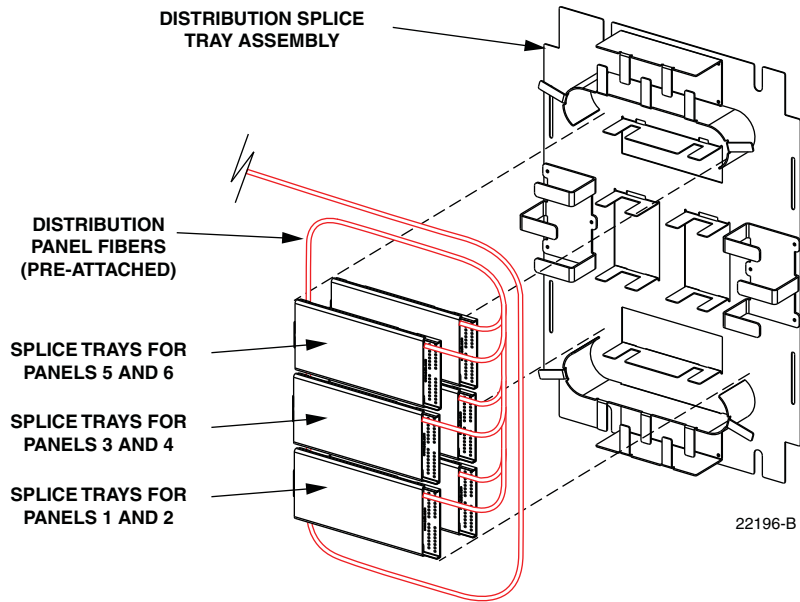

Figure 38. Distribution Splice Tray Assembly – Stranded Cable
3. Unfasten the hook and pile strips that secure the tray in place and unwind the attached fiber tubes from around the distribution splice tray assembly as shown in Figure 38.